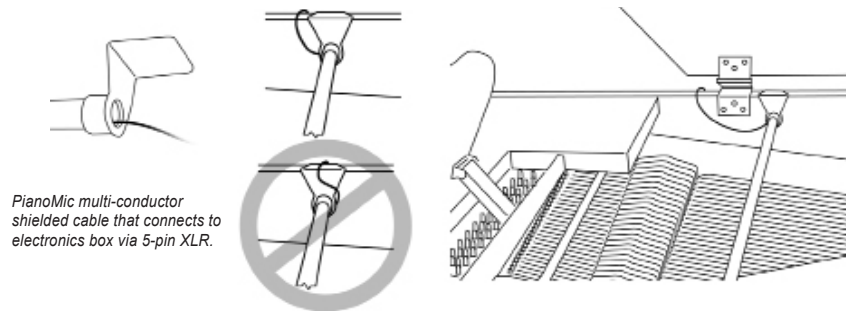

Figure 8. Positioning the PianoMic Cable
5. Notice that one end of the PianoMic™ has a multi-connector shielded cable coming out of the tube below the support arm (Figure 8). It doesn't matter which side of the piano the cable exits. The main objective is to place the PianoMic™ in the piano so that the microphone heads can be easily placed 2 to 3 inches in front of the dampers. The cable is long enough to easily reach the opposite side of the piano should you decide to locate the electronics box on the opposite side of the piano from where the cable comes out of the PianoMic™. You will need to position the cable so it does not lie on top of the support arm. The combined thickness of the support arm with the cable on top if it would exceed the size of the opening between the piano case and the lid. Therefore when the lid is closed it would pinch and deform the cable. To avoid this, place the cable to one side of the support arm. You may also position the cable so it comes out the open area of the piano as illustrated in Figure 8.